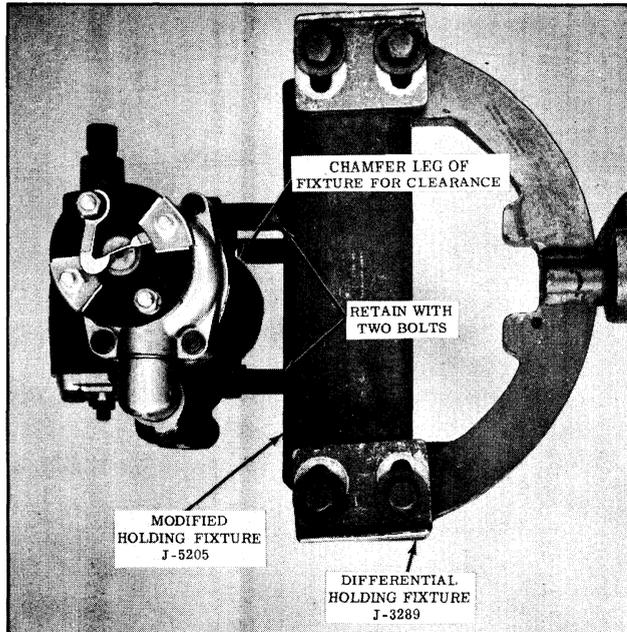

Fig. 5-27 Holding Fixtures
3. Mount gear assembly on modified holding fixture J-5205, then, mount holding fixture and gear assembly on differential holding fixture J-3289. (See Fig. 5-27)